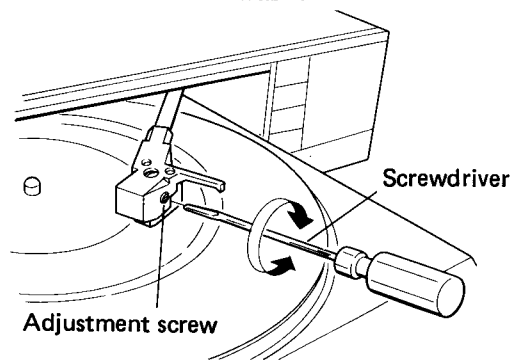

Fig. 9.2 Adjustment of Stylus Lowering Position Between Tracks
4. Depending on the degree of displacement, adjust the adjustment screw in the head shell (see Fig. 9.2) with a small screwdriver.